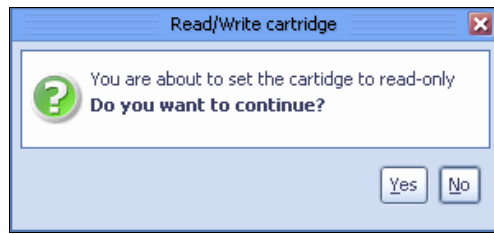

Figure 10-47 Read/Write cartridge window
- From the menu bar, select **VT** → **VT** → **Read/Write cartridge**, or you can right-click and select the **Read/Write cartridge** menu. A confirmation message box opens (Figure 10-47).